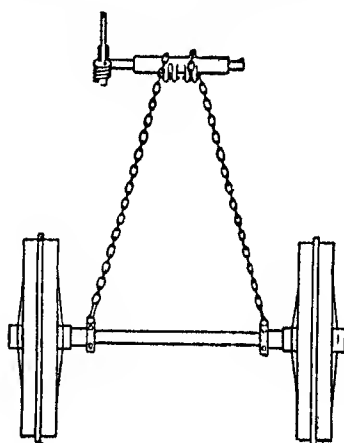

FIG. 64.—WORM STEERING GEAR.
**Steering Attachment.**—One of the most widely used and simplest forms of steering gears is illustrated in Fig. 64.